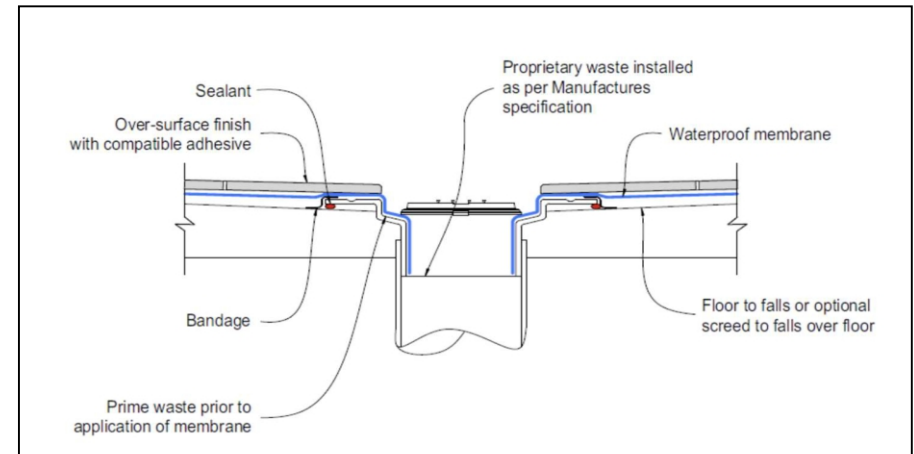

Figure 27: Waterproof membrane system into floor waste outlet
- ◆ Figure 27: Waterproof membrane system into floor waste outlet